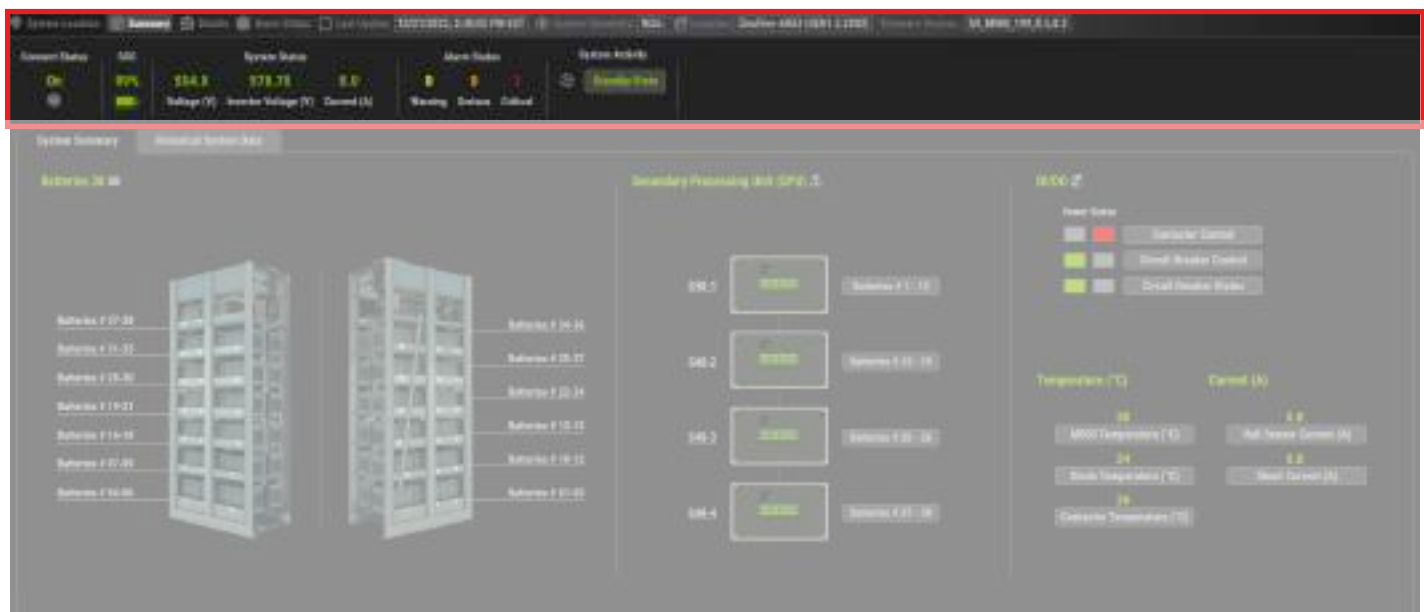

Figure 17 - System Summary Bar.
1. The top of the **System Summary** display (Fig. 17) includes the following system attributes: